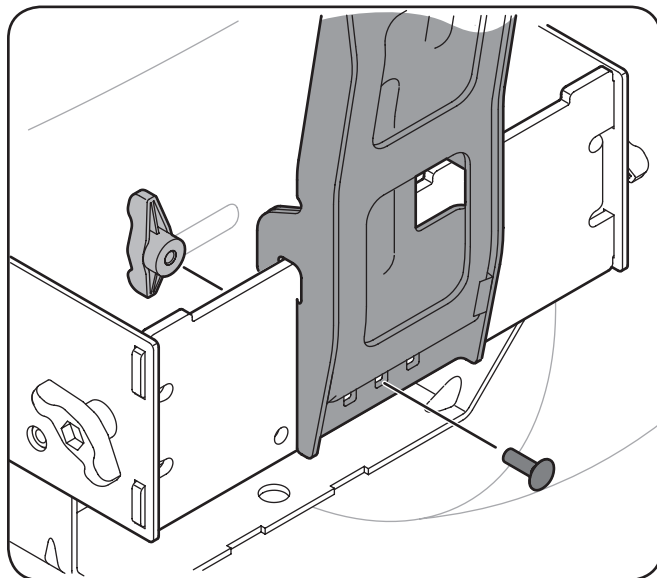

Figure 4-7
5. Secure the vertical support bracket to the mounting assembly using a carriage bolt (710-0276) and wing knob (720-04122) from hardware pack 689-00328A. See Figure 4-7.